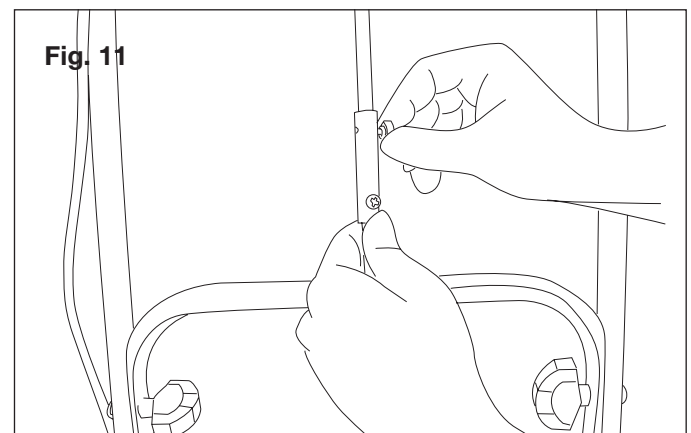

Fig. 11
4. Align the screw holes and tighten the screw by hand (Fig. 11).